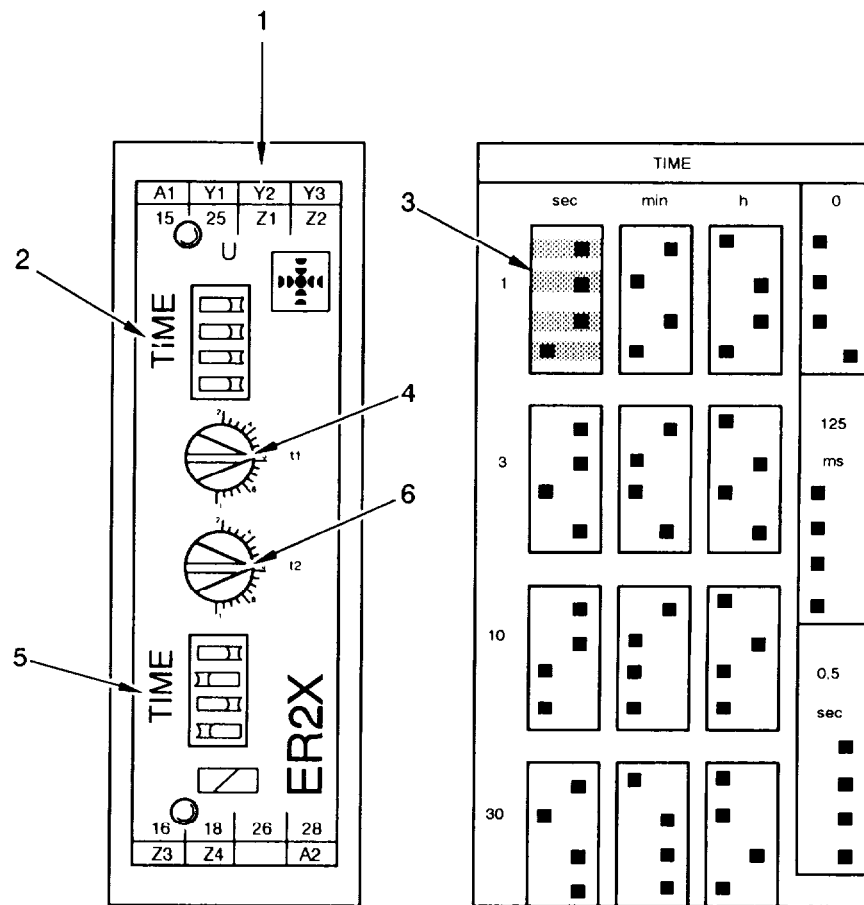

Figure 5-22 Time Relay K25
6. Set time relay K25 (44) to switching time $t_1 = 0.5$ seconds and pulse time $t_2 = 0.5$ seconds:
- a. Insert jumper Y1 -Y2-Y3 (1) into upper row of terminal as shown in figure 5-22.
On front of time relay K25 (44), use TIME DIP switches (2) to set a 1 -seconds time window as indicated in figure 5-22.
On front of time relay K25 (44), use TIME DIP switches (5) to set a 1 -seconds time window as indicated in figure 5-22.